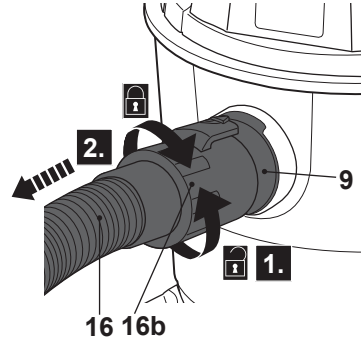

Fig. 13
- > Rotate the hose connector (16b) anticlockwise and pull it from the air inlet (9) to disconnect the hose (16) after use (Fig. 13).